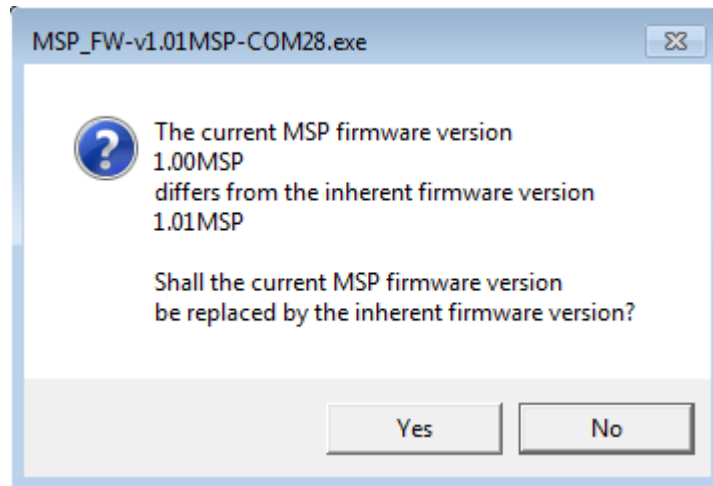

Fig. 3-5: Firmware update dialog box
3. Run the executable application. A dialog box as shown in Fig. 3-5 appears informing the user about the current firmware version on the MSP and the inherent firmware version to which it will be updated. Clicking on Yes button starts the firmware update process.